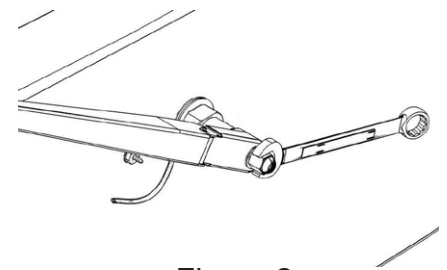

Figure 2
3. Remove the black cap nuts (AME part #407-1010) from the wiper arms; use a 9/16" open end wrench. (Figure 2)